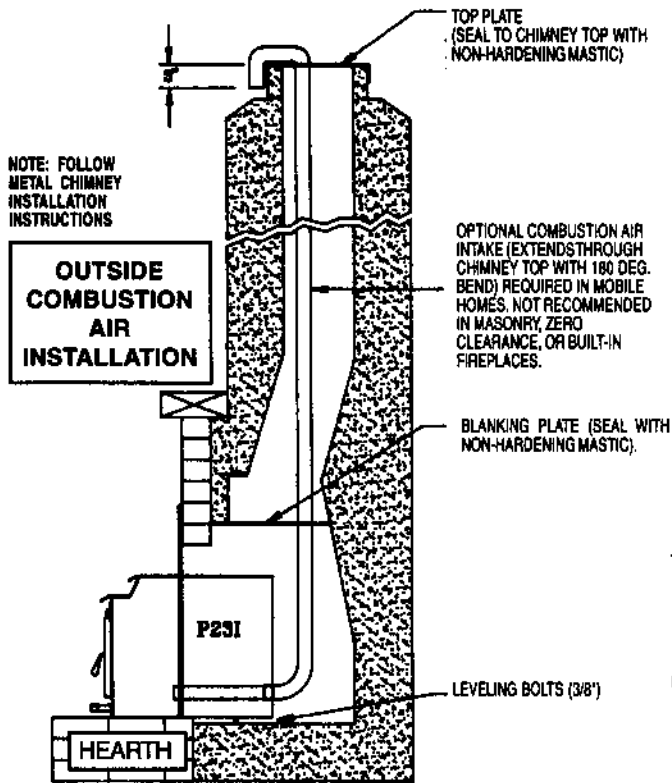

Figure 10
3. Top of chimney (see figure 10).